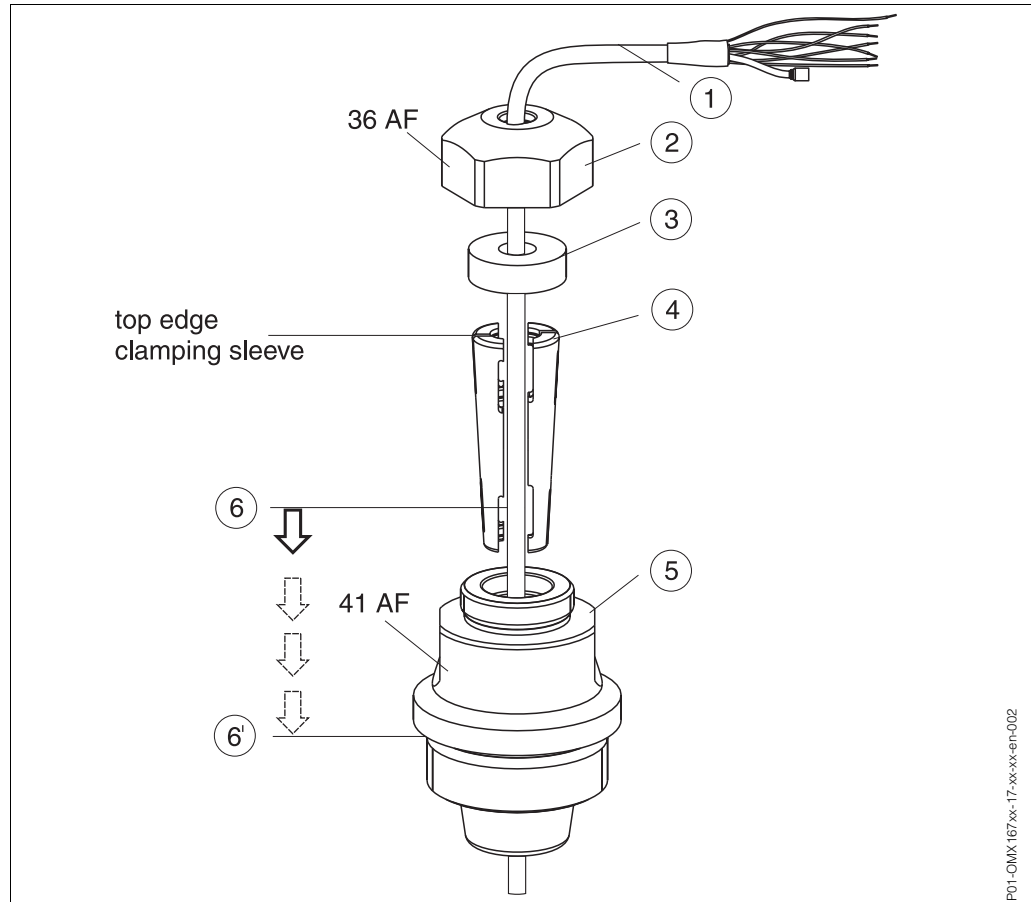

Fig. 4: Installing the I-LEVEL OMX 167 with cable mounting screw, here depicted with G 1 1/2 thread
2. Raise clamping jaws (Pos. 3). Place extension cable (Pos. 1) acc. to Fig. 4 between clamping jaws.